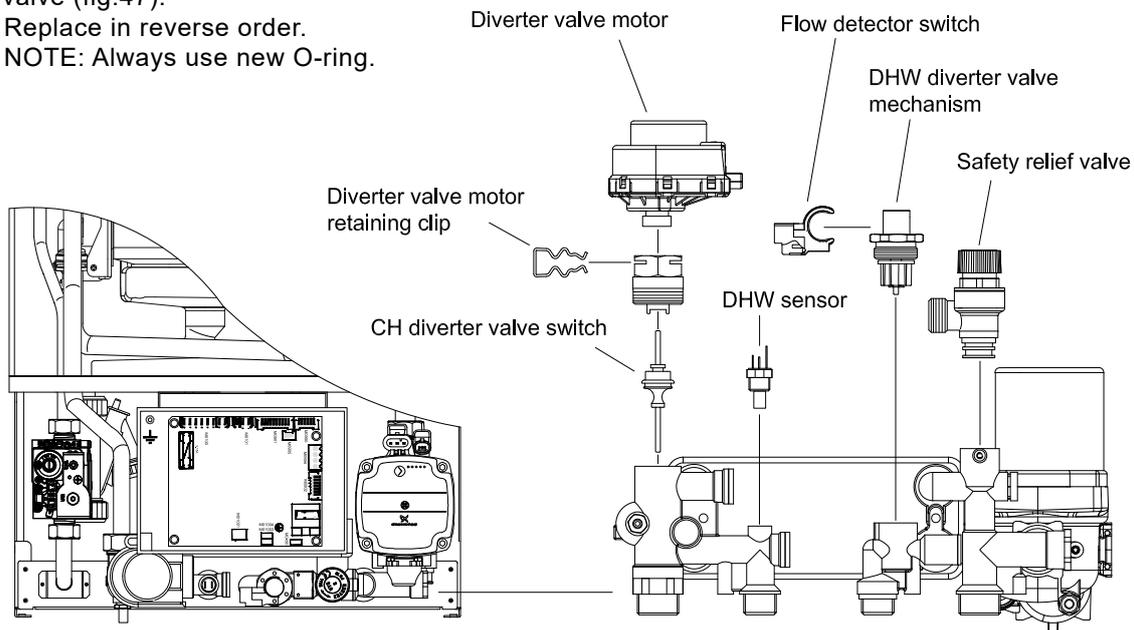

Fig.46
Unscrew the two allen screws that connect the DHW heat exchanger and pull it out from the boiler (fig. 46).
8.12 TO REMOVE/REPLACE DIVERTER VALVE MOTOR (Fig. 46)
8.13 TO REMOVE/REPLACE C.H. DIVERTER VALVE (Fig. 46)
8.14 TO REMOVE/REPLACE D.H.W. DIVERTER VALVE MECHANISM (Fig. 46)